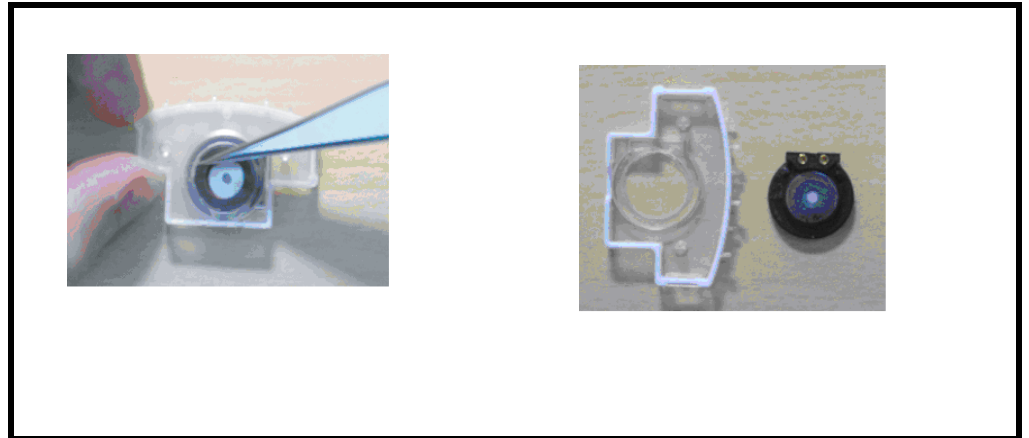

Figure 24. Removing the Camera-FPC and Speaker-FPC connectors
2. Remove the Speaker from Speaker Box with a tweezer as shown in Figure 24.